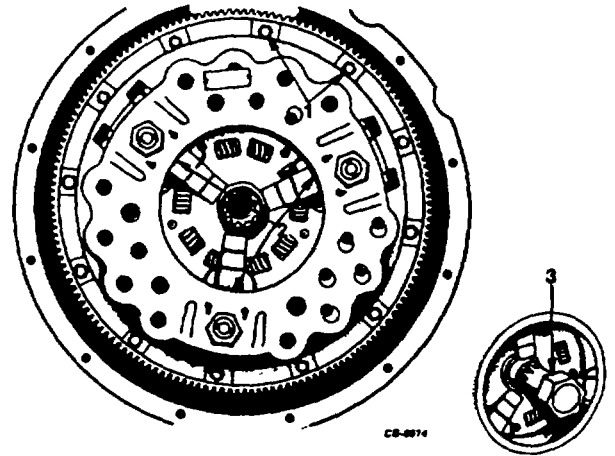

Figure 139. Clutch Installation
22. Install clutch assembly on engine flywheel. Clutch installation procedures vary between clutch types. With clutch assembly shown in Figure 139 proceed as follows: